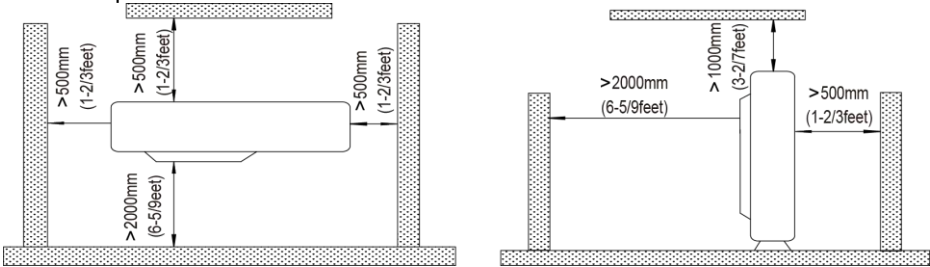

Fig. 3.2
- (6). Install the outdoor unit where is capable of withstanding the weight of the unit and generates as less noise and vibration as possible.
- (7). Provide the space shown in Fig. 3.2, so that the air flow is not blocked. Also for efficient operation, leave three of four directions of peripheral constructions open.